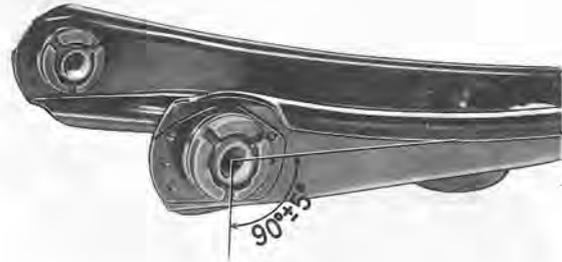

Fig. 6-28. Bushes for radial tyres
- Note! Both the bushes should be faced with the flange towards the rear in the vehicle, see Fig. 6-14. If it concerns a bush for radial tyres, its recess must also be turned downwards at right angles to the longitudinal direction of the wishbone, see Fig. 6-28.